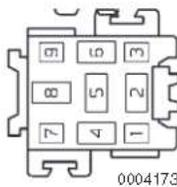

Figure 12-7
12 V is supplied directly to terminal 30 (**Figure 12-7, (4)**). An internal connection connects one end of the winding to terminal 30. When the key switch is turned ON, a 12 V signal is sent to ECU terminal 27. The ECU then completes the winding ground circuit (terminal 85) through ECU terminal 220.